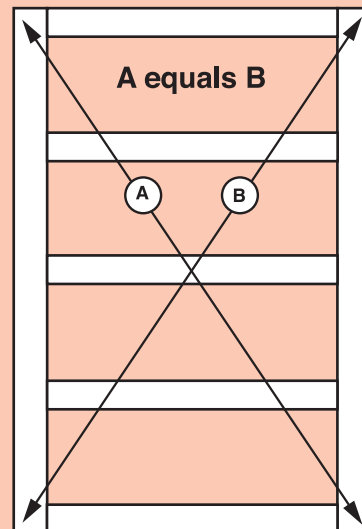

Figure 2. Square each door leaf by stretching a measuring tape diagonally, as shown, so that the lengths are the same both ways.
5. Diagonally square the door frame, as shown in Figure 2. Adjust as needed and secure with a second 1½" nail at each joint.
5. Diagonally square the door frame, as shown in Figure 2. Adjust as needed and insert a second 1" TEK screw at each joint.
5. Diagonally square the door frame, as shown in Figure 2. Adjust as needed and secure with a second 3" nail at each joint.
6. Diagonally square the door frame, as shown in Figure 2. Adjust as needed and insert a second 1" TEK screw at each joint.